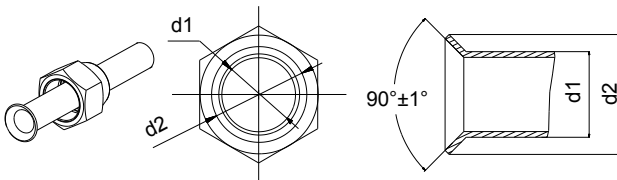

Fig. 4.10
- (1). Cut the connection pipe with the pipe cutter and remove the burrs.
- (2). Hold the pipe downward to prevent cuttings from entering the pipe.
- (3). Remove the flare nuts at the stop valve of the outdoor unit and inside the accessory bag of the indoor unit, then insert them to the connection pipe, after that, flare the connection pipe with a flaring tool.
- (4). Check if the flare part is spread evenly and there are no cracks (see Fig. 4.10).